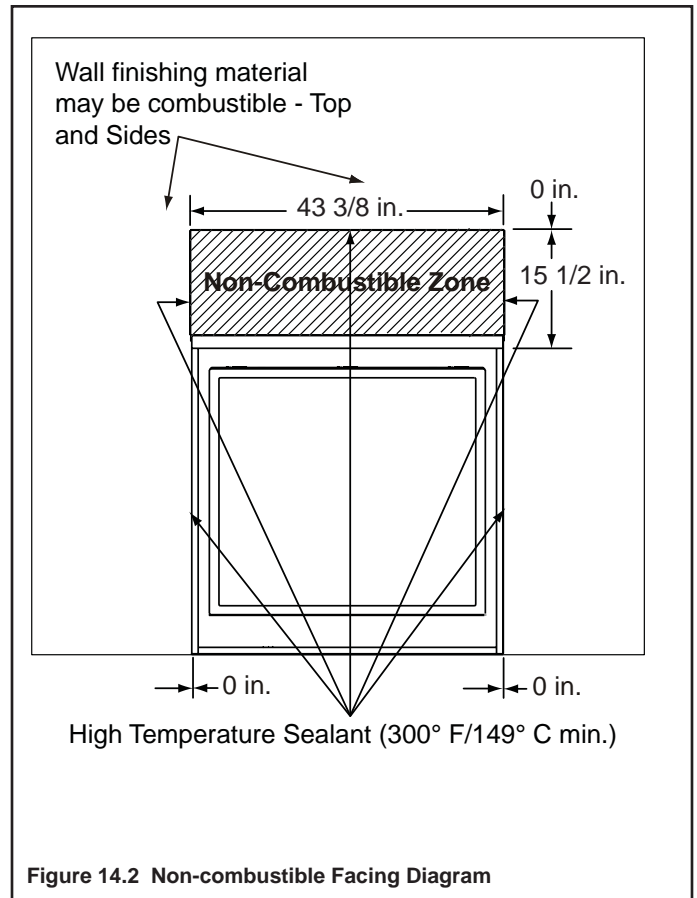

Figure 14.2 Non-combustible Facing Diagram
- Locate and remove four screws holding the upper to the firebox (see Figure 14.2, #2).
- The unit is shipped with door templates attached. The wall material should go behind the templates and butt up to the edge of the unit. Refer to Figure 14.2.